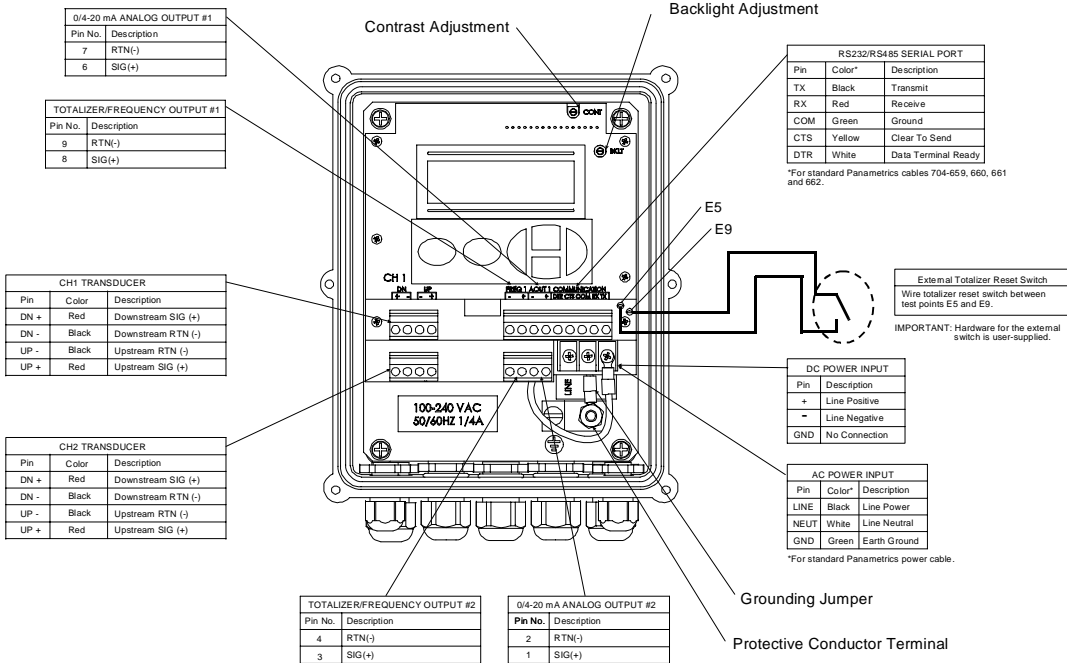

Figure 1-4: Model AT868 Wiring Diagram #702-425
2. Refer to Figure 1-4 on page 1-16 for the locations of the appropriate terminal blocks and wire the analog outputs as shown. Secure the cable clamp.
2. Refer to Figure 1-4 on page 1-16 for the location of the appropriate terminal blocks and wire the totalizer/frequency outputs as shown. Secure the cable clamp.
3. Feed the flying leads end of the cable through the conduit hole and wire the leads to the COMMUNICATON terminal block as shown in Figure 1-4 on page 1-16. Connect the other end of the cable to the printer, ANSI terminal or personal computer, and secure the cable clamp.
To wire the RS485 serial port, refer to Figure 1-4 on page 1-16 and complete the following steps:
- 2.** Feed one end of the cable through the conduit hole and wire the leads to the COMMUNICATION terminal block as shown in Figure 1-4 on page 1-16. Secure the cable clamp.
2. Feed the wires through the conduit hole and wire lead TMT+ to pin 2 (RX) on the COMMUNICATION terminal block (refer to Figure 1-4 on page 1-16 for the terminal block location).
3. Wire lead TMT- to TX pin 1 (TX) on the COMMUNICATION terminal block and secure the cable clamp.
2. Use Figure 1-4 on page 1-16 to properly connect the external switch to the AT868.